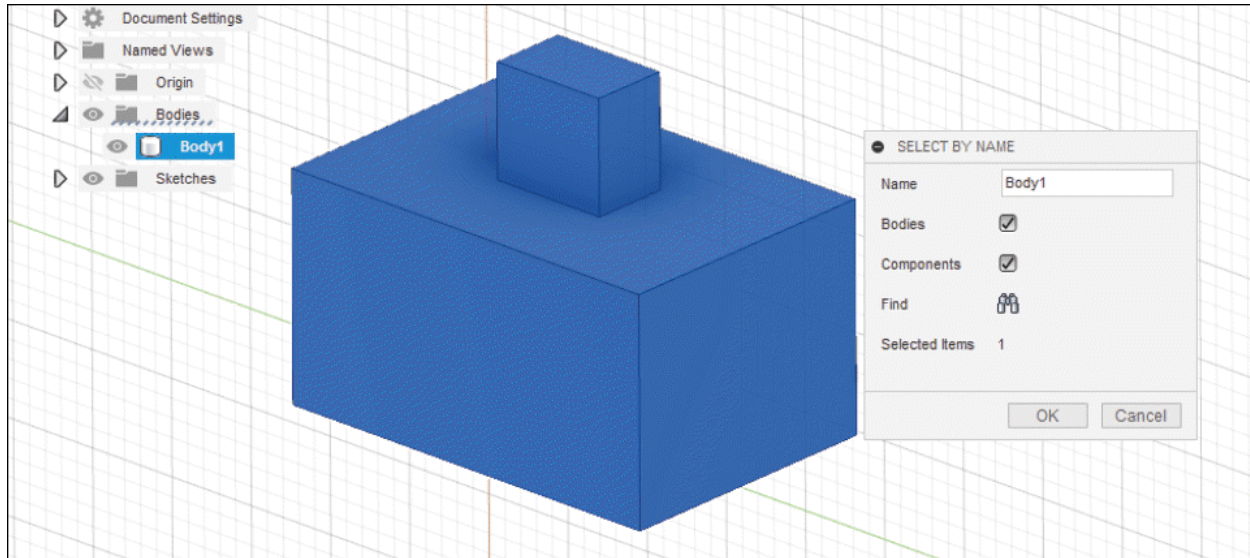

Figure-17. Bodies selected by name
- Click on the **Find** button in the dialog box. All the components and bodies matching the specified name will be selected; refer to Figure-17.